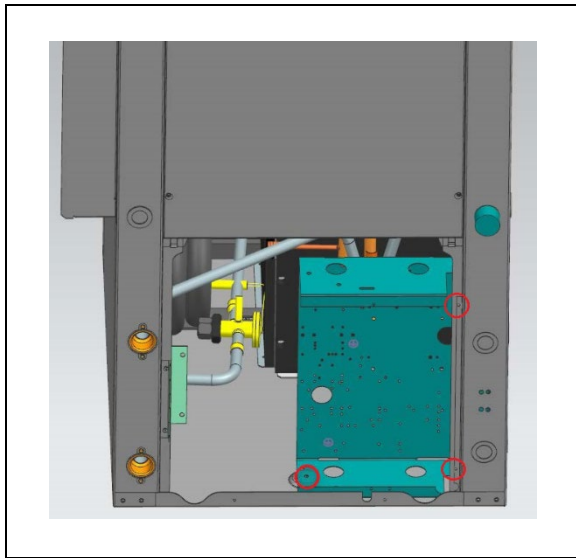

Figure 4. Electrical Box Screws Location
- Remove screws holding Electrical Box to unit base (bottom left) and to unit corner post (top and bottom side of the Electrical Box). See Figure 4.